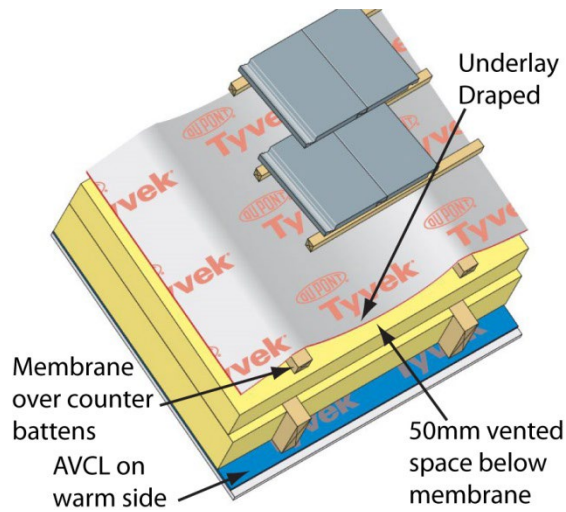

Figure 4
4. Warm roof - Ventilated or non-ventilated (vapour impermeable roof covering) (Figure 4)